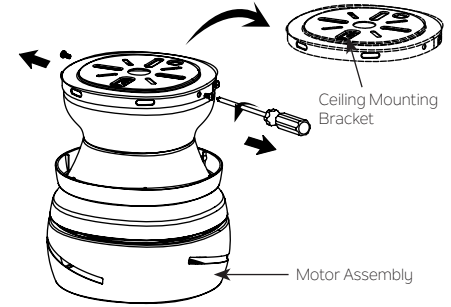

Fig. 4
Step 1. Loosen two (one of each across) of the four screws from the ceiling mounting bracket, and remove the other two and keep for later use, then release the ceiling mounting bracket from the motor assembly. (Fig. 4)